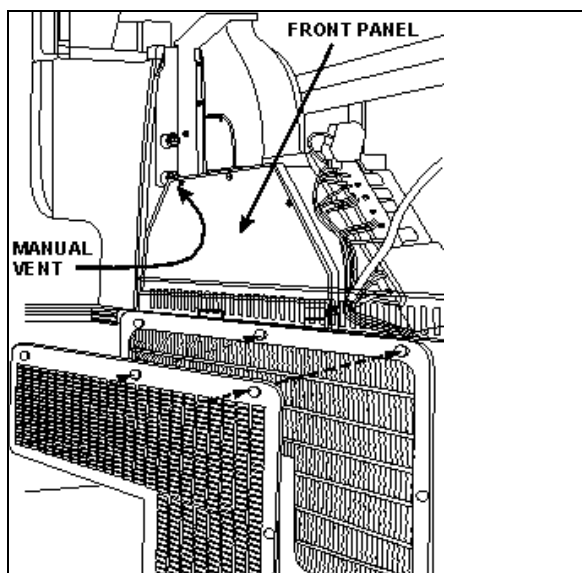
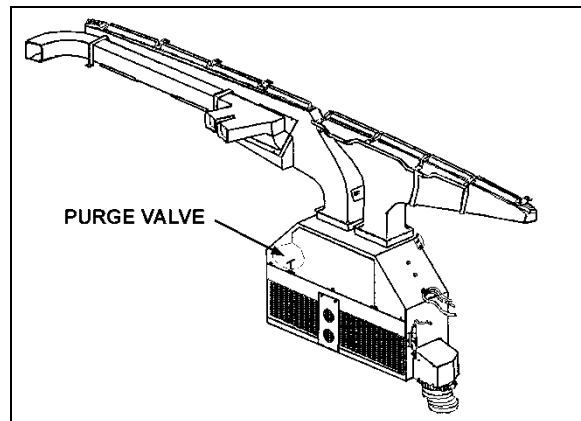
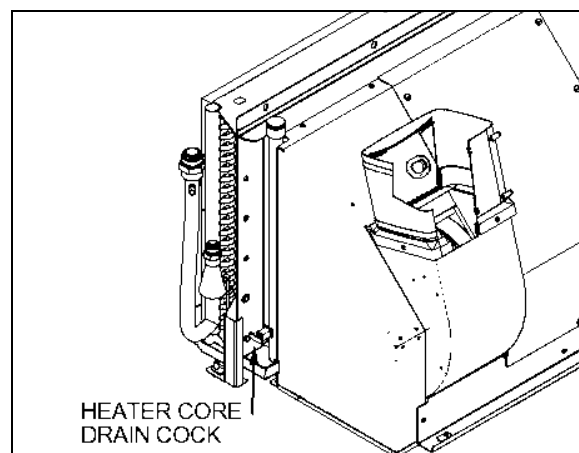

FIGURE 73: DRIVER'S HVAC/DEFROST UNIT
FIGURE 74: DRIVER'S UNIT AIR MIXING BOX
FIGURE 79: HEATER CORE DRAIN COCK LOCATION
Fresh air is taken from behind the R.H. side headlights assembly (H3 series) or from a plenum underneath the front service compartment (X3 Series) and enters the mixing box through a ON/OFF damper. Return air is taken through the right console into the mixing box (Figure 74). Mixed air goes through cooling and heating coils, fans and discharge ducts.
4. From inside of vehicle, remove the two finishing panels in front of unit. Remove the three screws fixing the unit front panel. Open the purge valve located inside the driver's unit (Figure 74). If present, open the manual vent located inside the HVAC unit, on the driver's side (Figure 73) to ensure an efficient draining.
4. Open drain cock in bottom of heater core (Figure 79) you can unfasten a hose connection on top of heater core in order to allow air to enter while draining. The main heater core drain cock is located in the evaporator compartment. To access the valve, open baggage compartment door located in front of the evaporator compartment (L.H. side). Open the evaporator compartment access panel.
Whenever the heating system has been drained and refilled, or the system has run low on coolant and coolant has been added, it is necessary to bleed air from heating system. Locate the purge valve illustrated in Figure 74 & Figure 79, and open them momentarily until no air escapes from the lines. If present, open the manual vent located inside the HVAC unit, on the driver's side (Figure 73).